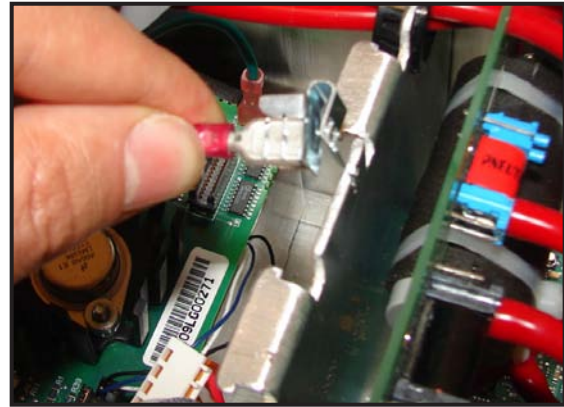

Figure 6-43
10. Disconnect the recorder EMC ground wire Fast-on connector from the chassis tab (See Figure 6-43).
4. Disconnect the recorder EMC ground wire Fast-on connector from the chassis tab (See Figure 6-43).